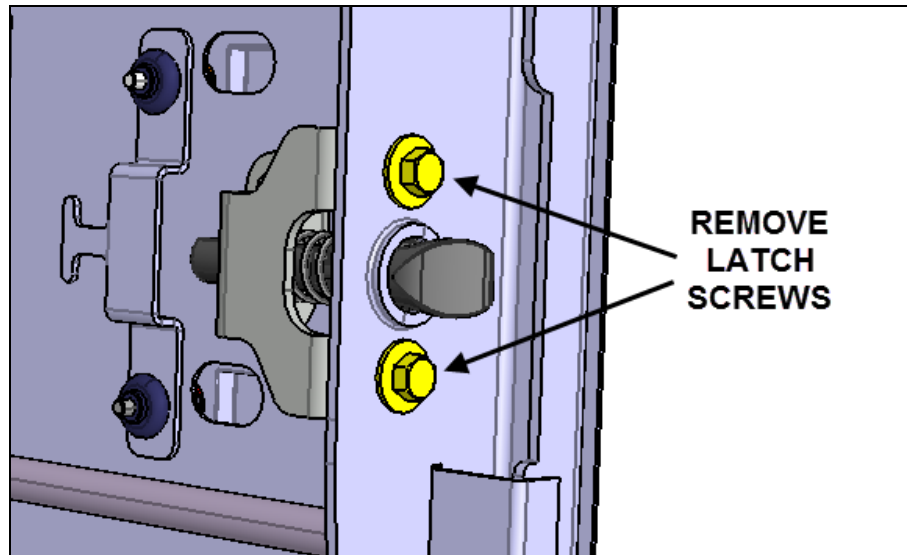

FIG.21 LATCH SCREWS
19. Remove both hex screws holding the latch bracket to the door frame (Fig.21)